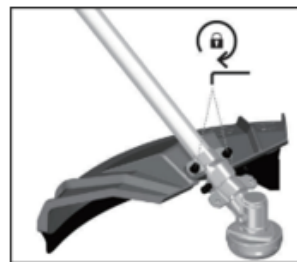

Fig.3-2
2. Mount and tighten the screws. (fig. 3-2)